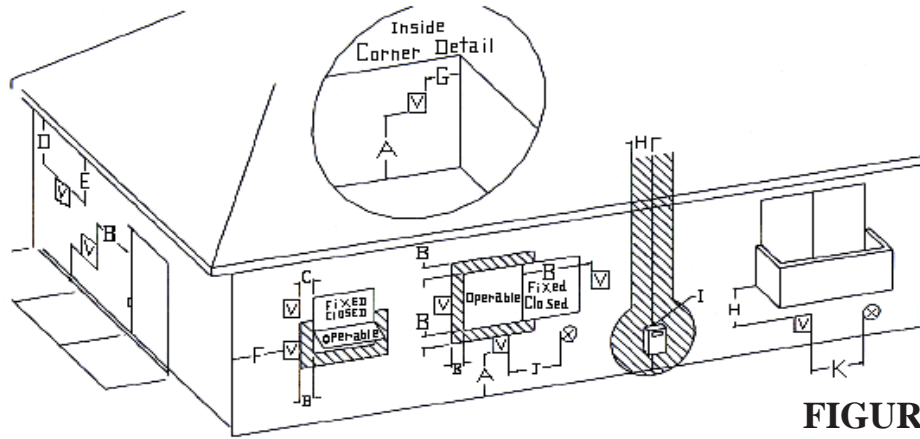

FIGURE 1
5. The minimum clearance from the edge of the vent cap to any overhanging obstruction, perpendicular side wall, or corner of building is 12". (See Figure 1).
6. Vent cap must be located at least 9" from any opening that would allow combustion products to enter the building, windows, doors, etc., and 12" above the ground or shrubbery (See Figure 1). Do not install vent cap in a window well. Provisions must be made to prevent snow accumulation from infringing on vent cap clearances.
- d) Check outside wall at this location for proper clearances around vent cap. (See Fig. 1).